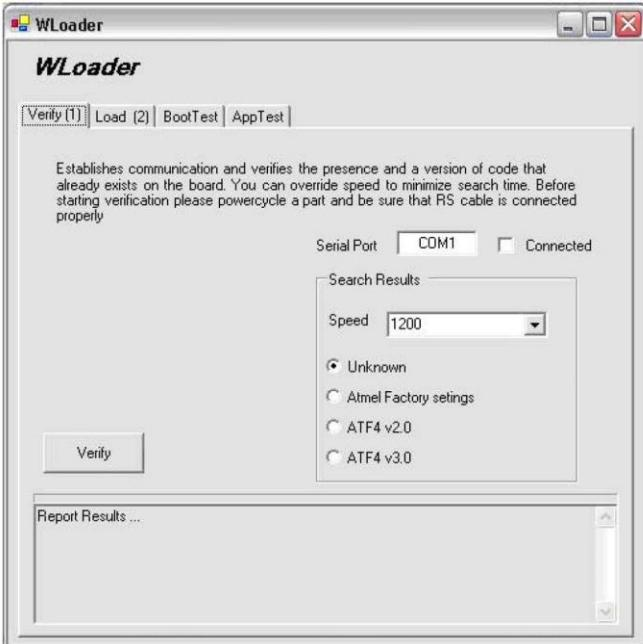

Figure 8-1 Remote tab
2. Run WLoader.exe file at the directory WLoader is loaded. The Wloader window will be displayed - Figure 8-1.